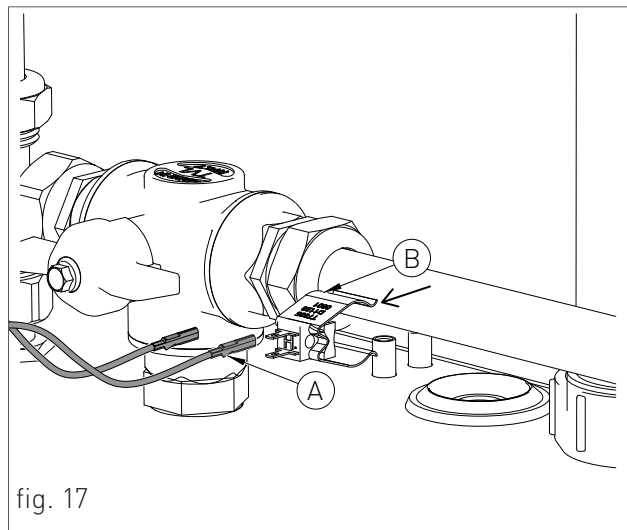

fig. 17
- › disconnect the two faston of the recirculation probe (see A-fig.17) and connect them onto the optional extension cable (cod.: 65-00677).
- › Move the recirculation probe from the water heater (see B - fig.17) to the recirculation loop, see the scheme 'COMBINATION MODE (DHW + HEATING) WITH EXTERNAL RECIRCULATION LOOP' chapter 'OPERATIONAL SCHEMES'; and connect the optional extension cable to the recirculation probe.